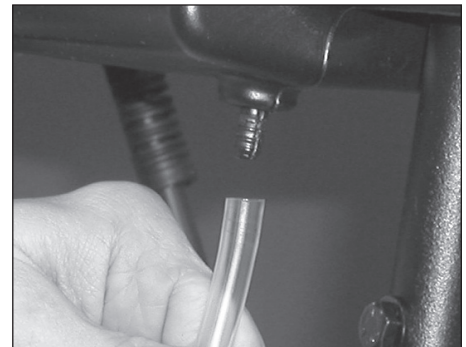

Figure 3 - Attach suction tube to barb fitting
3. Slide clear plastic hose attached to leg onto plastic hose barb of detergent tank (see Figure 3).